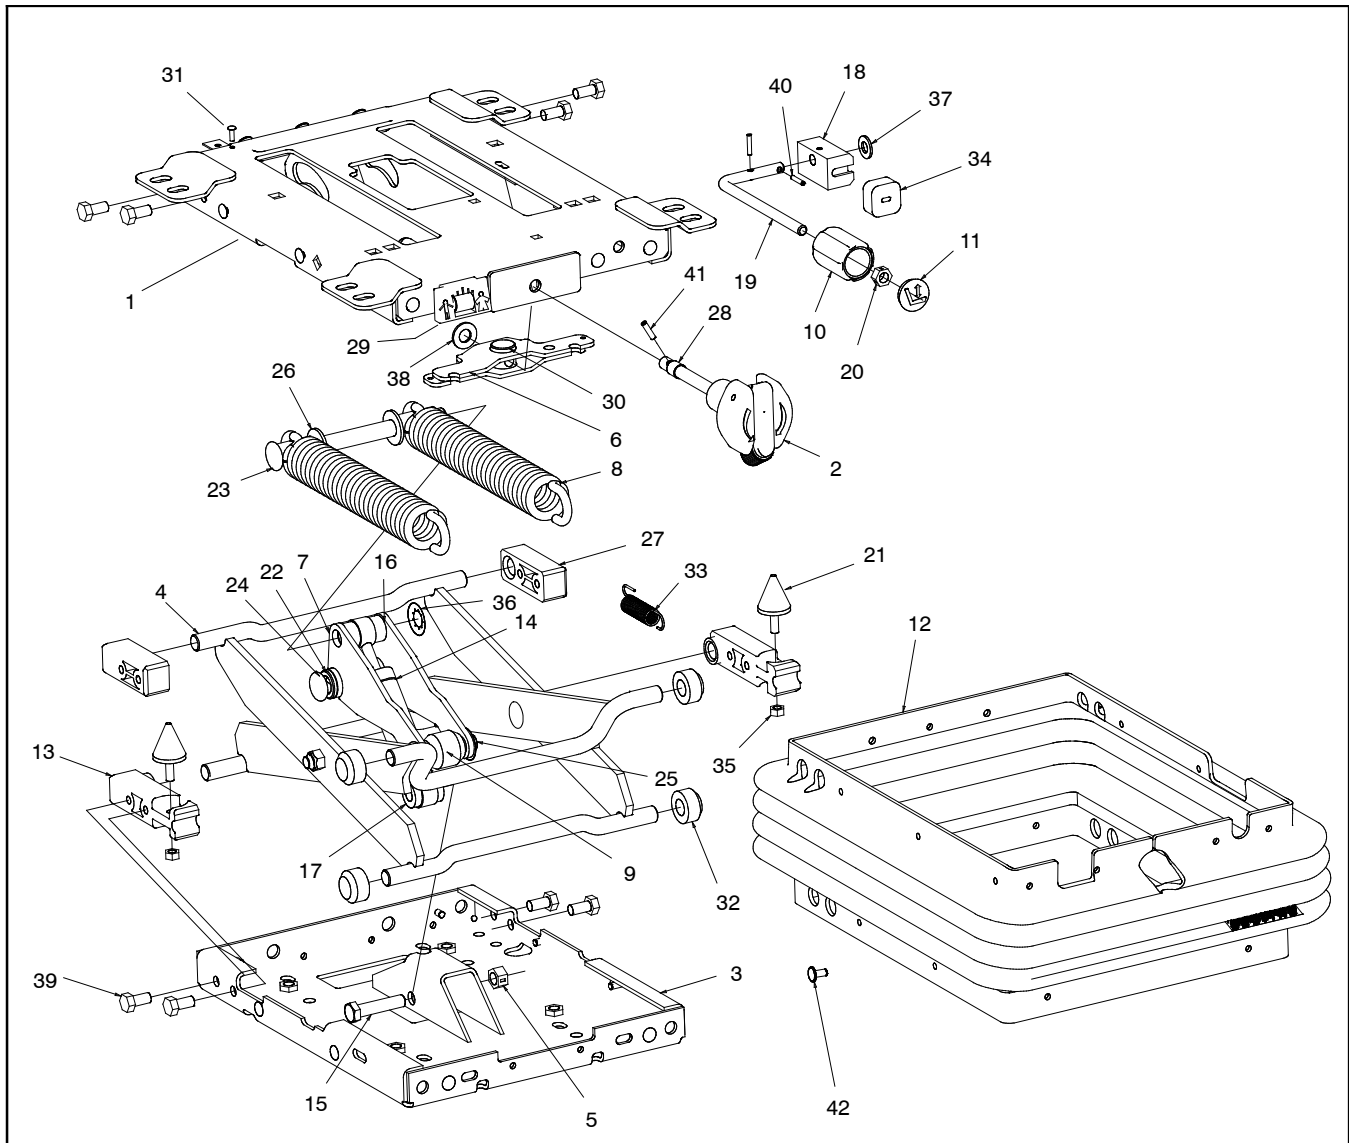

Figure 15
### Removal (Figs. 15 and 16)
7. Remove seat suspension components as needed using Figures 15 and 16 as guides.
### Installation (Figs. 15 and 16)
1. Install all removed seat suspension components using Figures 15 and 16 as guides.